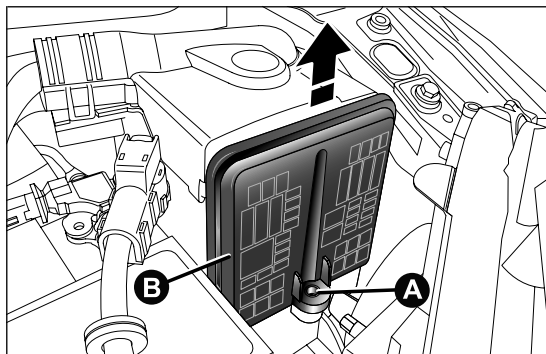

fig. 140
- ☐ open the luggage compartment and extract the roof light A fig. 140 working in the point shown by the arrow;